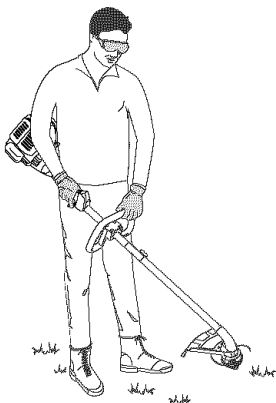

Fig. 12
- While holding the unit in the operating position, maneuver the D-handle to the location that provides you the best grip (Fig. 12).
Before operating the unit, stand in the operating position (Fig. 12).